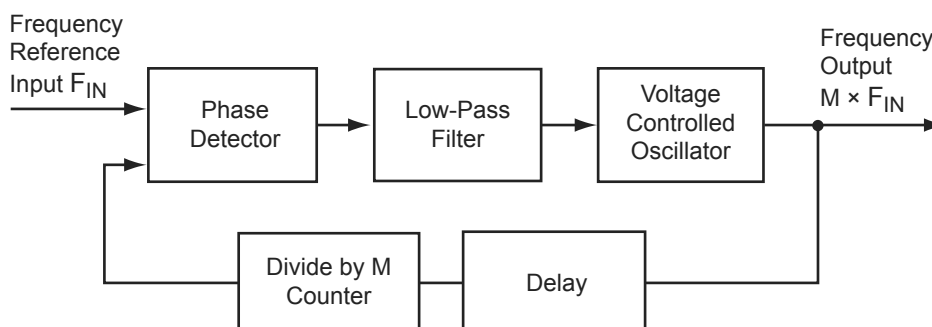

Figure 4-19 • Simplified PLL Core with Feedback Divider and Delay
This section briefly describes the basic principles of PLL operation. The PLL core is composed of a phase detector (PD), a low-pass filter (LPF), and a four-phase voltage-controlled oscillator (VCO). Figure 4-19 illustrates a basic single-phase PLL core with a divider and delay in the feedback path.
Consider Figure 4-19 with the feedback path bypassing the divider and delay elements. If the LPF steadily applies a voltage to the VCO such that the output frequency is identical to the input frequency, this steady-state condition is known as lock. Note that the input and output phases are also identical. The PLL core sets a LOCK output signal HIGH to indicate this condition.